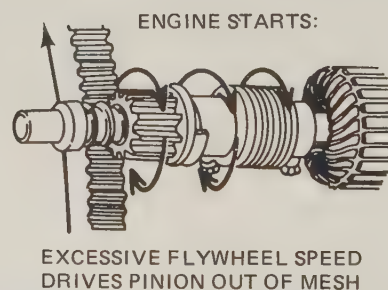

FIG. 23-19 Operation of a Bendix drive. (Delco-Remy Division of General Motors Corporation)
**○ 23-9 DRIVE ARRANGEMENT** The drive assembly contains a small pinion that, in operation, meshes with teeth cut in the flywheel (Fig. 23-19). This provides gear reduction, so that the armature must rotate about fifteen times to cause the flywheel to rotate once. The armature may revolve about 2000 to 3000 rpm (revolutions per minute) when the starting motor is operated. This causes the flywheel to spin at speeds as high as 300 rpm. This is ample speed for starting the engine.
In the Bendix drive (Fig. 23-19), the drive pinion is mounted loosely on a sleeve. The sleeve has screw threads matching internal threads in the pinion. When the starting motor is at rest, the drive pinion is not meshed with the flywheel teeth. As the starting motor switch is closed, the armature begins to rotate. This causes the sleeve to rotate also, since it is fastened to the armature shaft through the heavy spiral Bendix spring. Inertia prevents the pinion from instantly picking up speed with the sleeve. Therefore, the sleeve turns within the pinion, just as a screw would turn in a nut held stationary. This forces the pinion endways along the sleeve so that the pinion goes into mesh with the flywheel teeth. As the pinion reaches the pinion stop, the endways movement stops. The pinion must now turn with the armature, causing the engine to be cranked. The spiral spring takes up the shock of meshing.